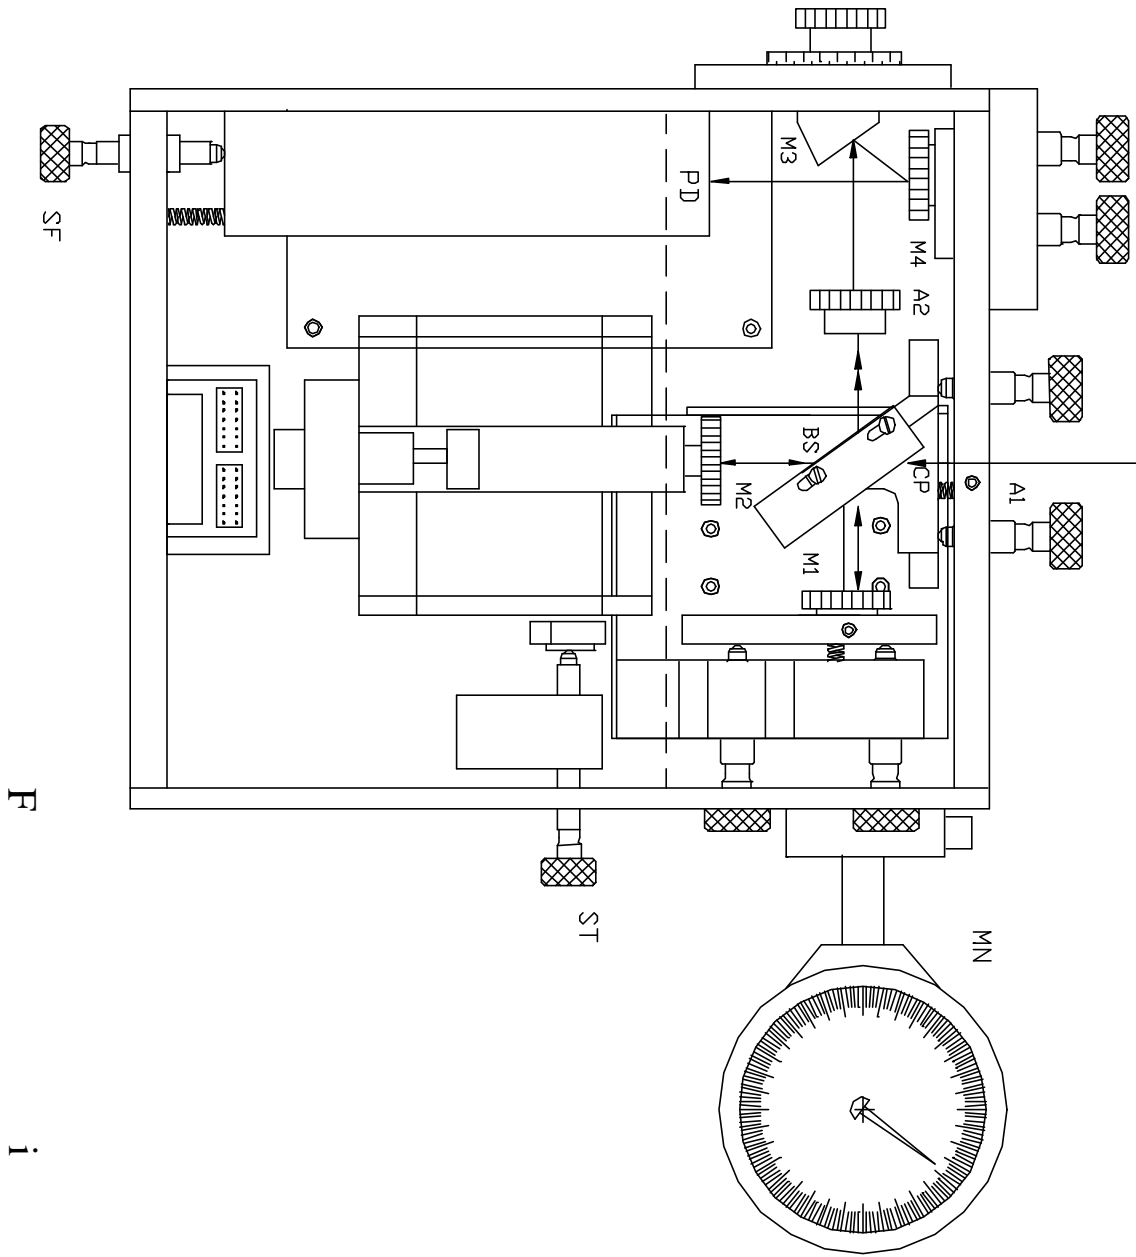

Figure.2
- 5.5 Direct laser beam through the aperture A1 onto the centre of the mirror M2 (through beam splitter BS) (Figure.2). For visible beams, this alignment can be done visually; for infrared beams, a viewer should be used.